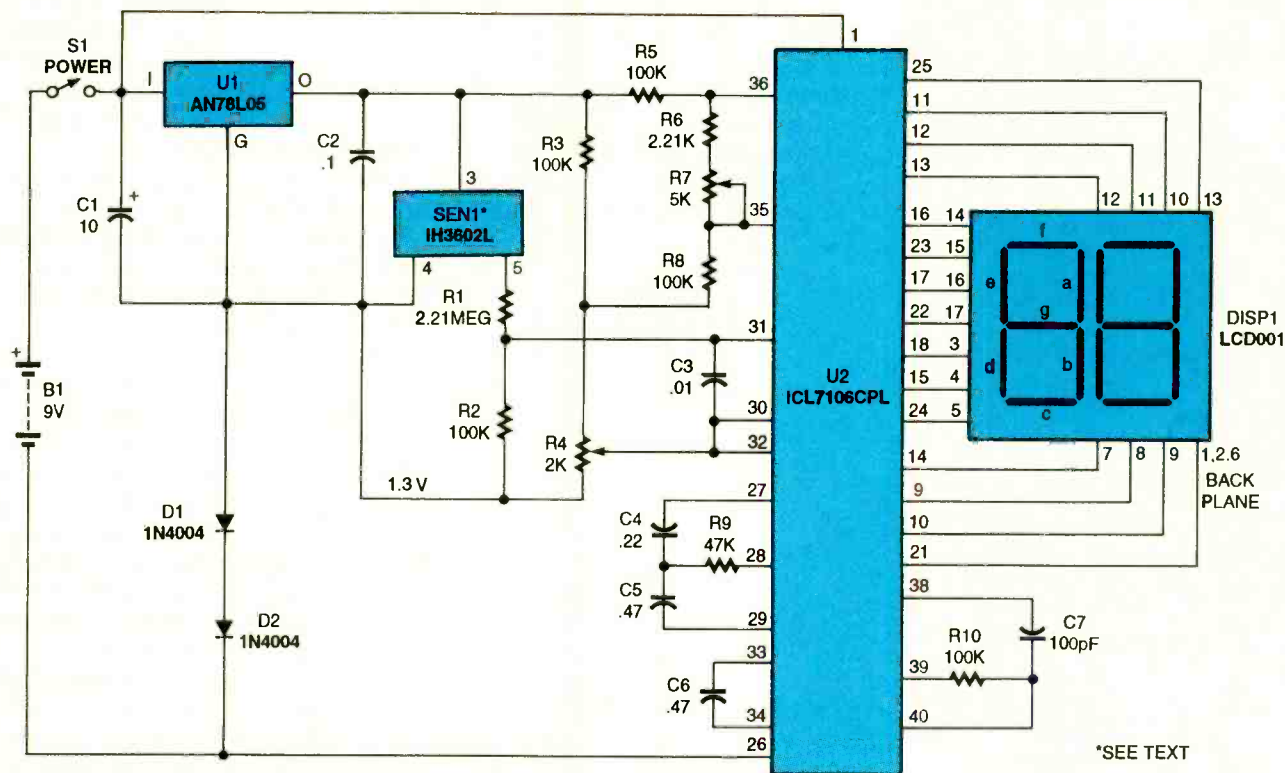

Fig. 1. At the heart of the Digital Relative Humidity Gauge is the Hy-Cal IH3602L, SENSI (a 6-pin CMOS device with active 3-terminals).
**How it Works.** Figure 1 shows a schematic diagram of the Digital Relative-Humidity Gauge. The heart of the humidity-measurement system is SENS1 (the Hy-Cal IH3602L, an 6-pin CMOS device with only 3-active terminals), whose DC output voltage varies linearly with RH levels from 0 to 100%.